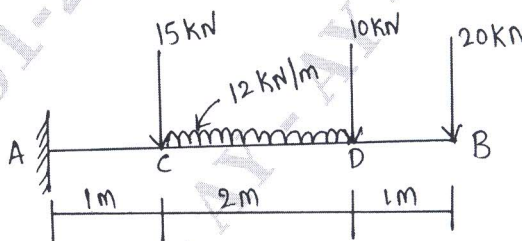

Fig.Q5(b)
b. Draw shear force diagram and bending moment diagram for the beam shown in Fig.Q5(b).